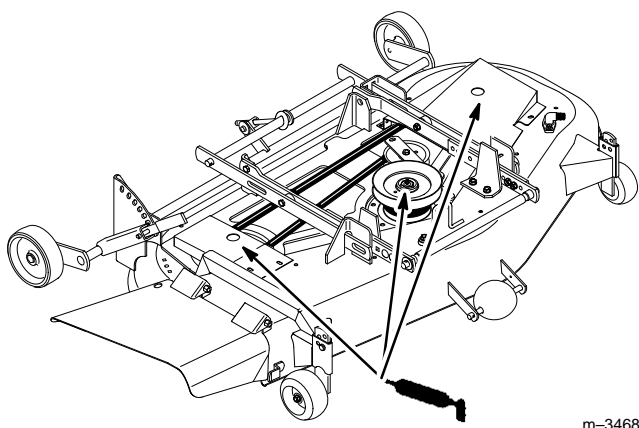

Figure 35
1. Lubricate the blade spindles (Fig. 35).
3. Once the indicators are in the same position on both sides, swing the tension release arm into the pulley box by moving it into the position shown in Fig. 35.